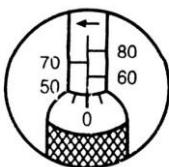

FIG1 50Nm
- 3) Lock the handle by turning the lock nut clockwise. The spanner is now set to 56 Nm and is ready for use. See figure 1 and 2.